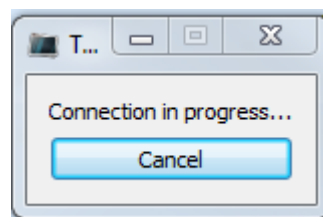

Fig. 2.3. The message that describing the process of connecting with the device.
2. Run the program and connect to the device by selecting "Device / Connect". After that in the center of window it will appear connecting panel (Figure 2.3). The process can be canceled by pressing the "Cancel" button if required.